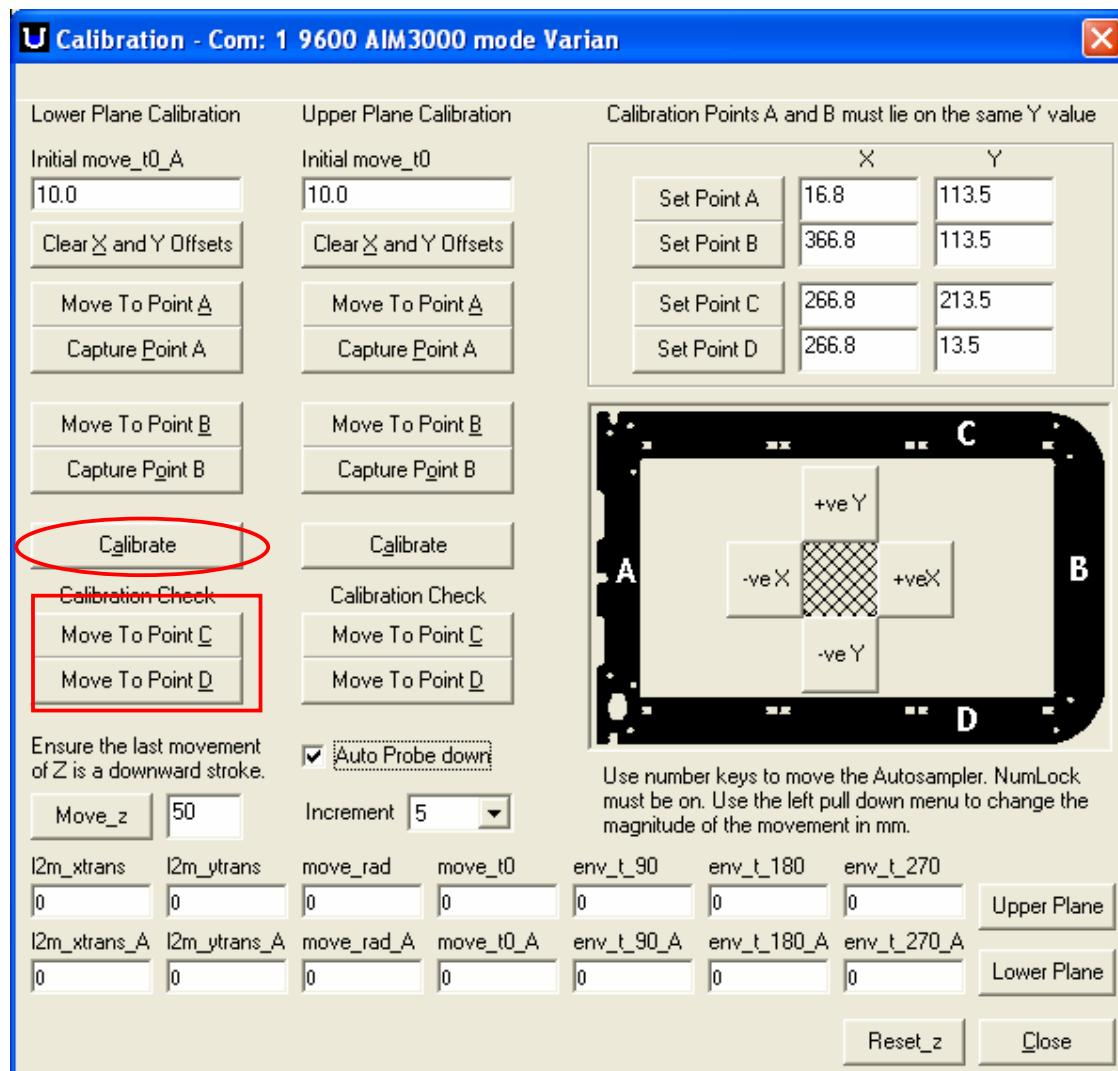

Figure 8: Calibrating and Checking the Calibration
11. Once both the A and B points have been calibrated, click on the Calibrate button to lock in the calibration coordinates of the lower level plane (Figure 8)
12. The Calibration can be checked by moving the probe to position C (*Move to Point C*) Figure 8. The probe should be within 1 mm of the point C. Moving the probe to position D (*Move to Point D*) will further confirm (assuming that it is also within 1 mm) that the whole lower level has been calibrated properly